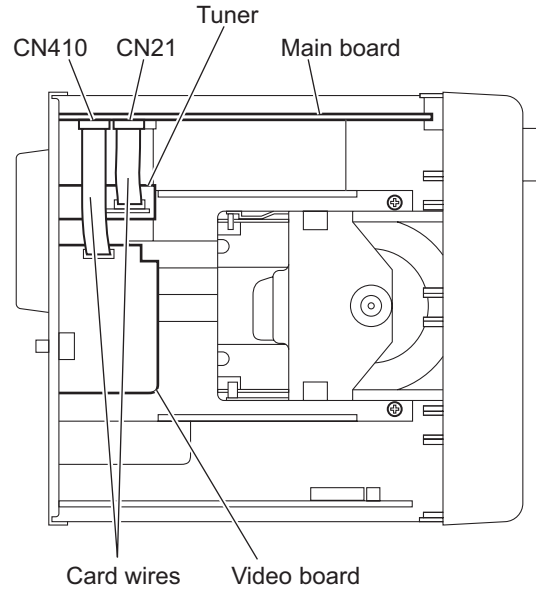

Fig.8
### 3.1.3 Removing the tuner (See Figs.8 and 9.)
- (1) From the top side of the main body, disconnect the card wire from the connector CN21 on the main board. (See Fig.8.)
### 3.1.4 Removing the video board (See Figs.8 and 9.)
- (1) From the top side of the main body, disconnect the card wire from the connector CN410 on the main board. (See Fig.8.)
Remove the tuner and video board as required. (See Figs.8 and 9.)